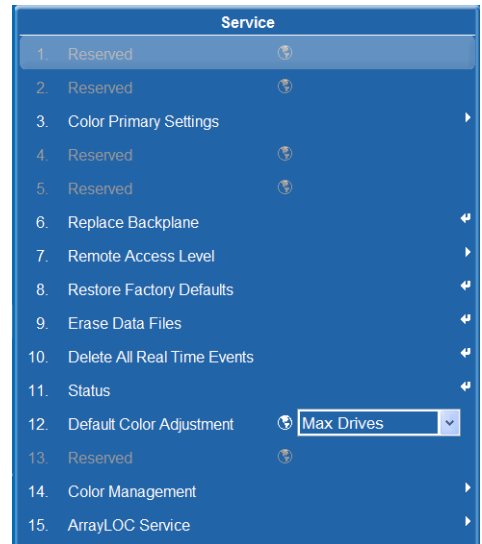

Figure 7-1 Color Primary Settings
Checking the box (**Figure 7-1, item 10**) automatically selects Color Enable based on the control being adjusted.